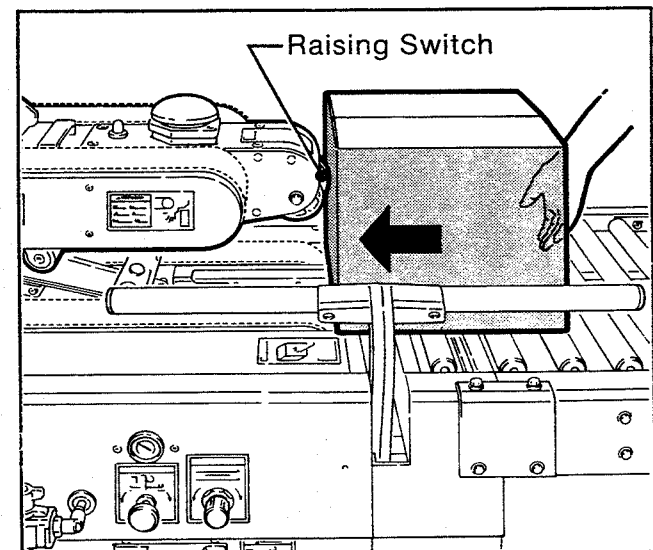

Figure 2-19 - Drive Assembly Raising Switch
2. Once the box is centered by the guides, the operator pushes the box against the raising switch on the upper drive assembly, as shown in figure 2-19, causing the upper taping head to be raised by two air cylinders. The upper taping head will continue to rise above the box height so the operator can insert the box underneath the upper drive belts.